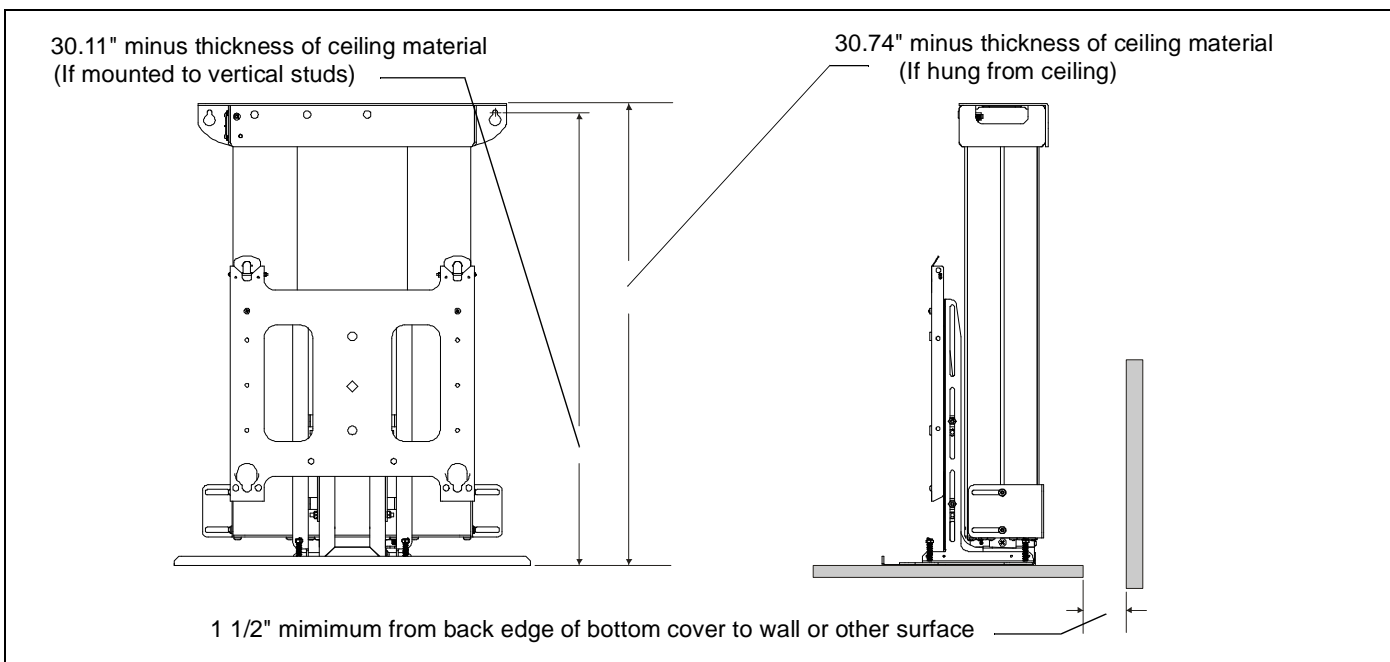
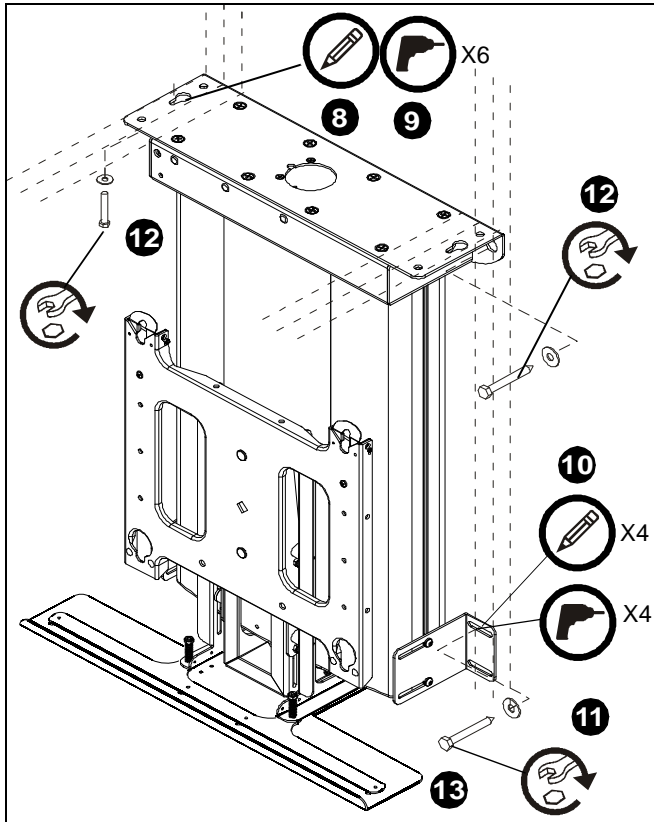

Figure 15
Figure 16
4. Locate vertical and horizontal position of mount. (See figure 15)
5. Loosen four screws securing side mounting brackets to mount and adjust side mounting brackets until properly positioned against studs if applicable. (See figure 16)
7. While maintaining dimensions referenced in figure 15, mark base plate mounting hole locations. (See figure 16)
9. Mark four side bracket mounting hole locations if applicable. (See figure 16)
11. Secure base plate to structure using either two (wall mount) or six (ceiling mount) 5/16" flat washers and two or six six 5/16" x 2 1/2" lag screws. (See figure 16)
12. Secure side brackets, if applicable, to studs using four 5/16" flat washers and four 5/16" x 2 1/2" lag screws. (See figure 16)